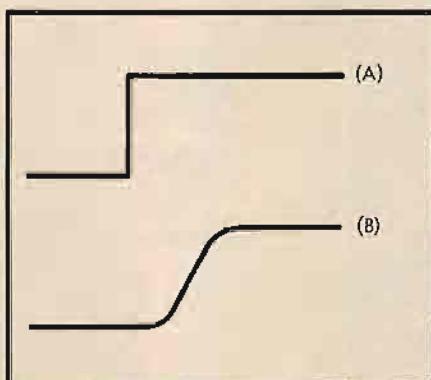
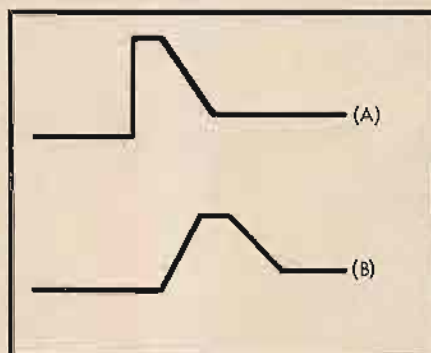
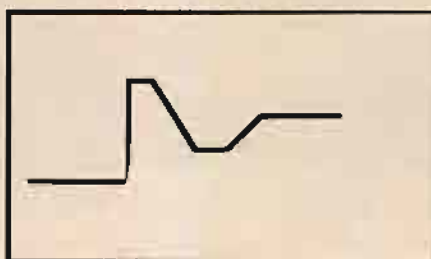

Fig. 1. The input square wave (A) is delayed and rounded off (B) before it reaches the output.
Fig. 2. As the initial signal goes through the amplifier and is fed back, the first passage results in an input (A) with a corresponding output (B).
Fig. 3. When the signal shown in (B) of Fig. 2 gets through the feedback path (second time around) the total input has the form shown.
"I recently investigated this low-frequency noise on a friend's recorder, and managed to cure it in the following manner: Most oscillators used for erase and bias have grid-leak bias on the grid. See the accompanying diagram of an oscillator (Fig. 1). The signal on the grid is large, and the grid is driven positive. The capacitor *C* charges, and the grid is biased negatively. If the grid current in this particular oscillator is too large, it may cause the grid to be driven so far negative as to
We must now consider what happens when we apply a large signal to a feedback amplifier. Since we are engineers we shall use a square-wave input to begin with but the implications of other waveforms will be examined later. We shall first of all disconnect the feedback so that we get from the input shown in (A) of Fig. 1 the output shown in (B).
Now let us connect the feedback loop and let us assume that it has a completely flat frequency response. What we see in (B) is returned to the input, so that for this first trip the input will become something like the shape shown in (A) of Fig. 2 except that I have not
rounded off the corners. If we were to have this waveform we should obtain the output shown in (B) of Fig. 2. But if this were the output, the input would be the combination of this (multiplied by the feedback coefficient ( $\beta$ ) and the input of Fig. 1 and would look something like the waveform shown in Fig. 3.